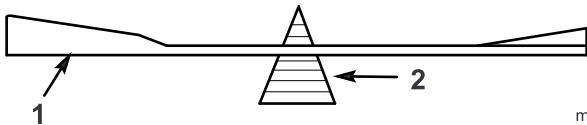

Figure 40
2. Check the balance of each blade by putting it on a blade balancer (Figure 40). If the blade stays in a horizontal position, the blade is balanced and can be used. If the blade is not balanced, file some metal off the back side of the blade. Repeat this step until each blade is balanced.